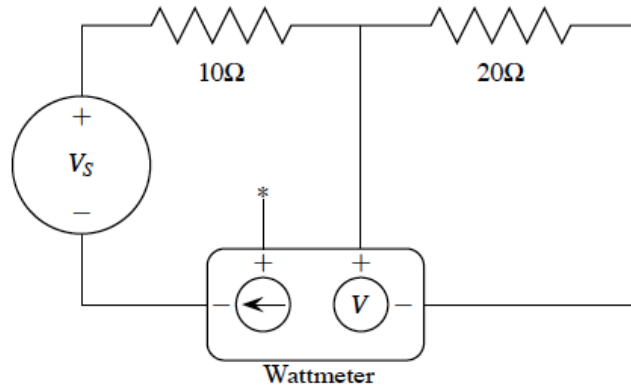

Figure 1.9: Circuit for Section 1.4.3
1. The value of the current flowing through the circuit in Figure 1.9 is unknown. Construct the circuit using ten-watt resistors and use the laboratory equipment to find it. Complete Table 1.5 and record the power and current from the wattmeter.